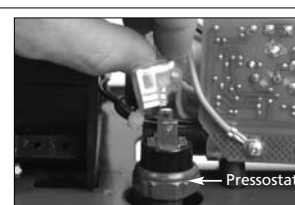

Figure 3 - Retirer les fils du pressostat
switch. *It does not matter which wire you connect to each pressure switch terminal.* (Refer to Figure 3.)
5. Retirer les deux vis du pressostat (figure 3).